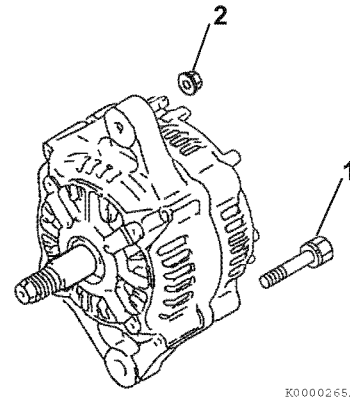

Figure 12-8
- Remove the two bolts (1, **Figure 12-8**) and two nuts (2, **Figure 12-8**) securing the rear frame housing to the front frame housing.